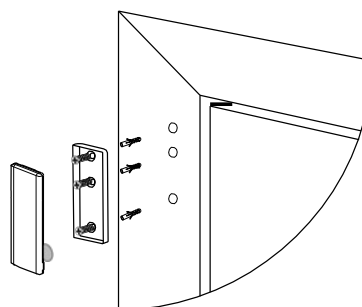

Figure 5: Device screw installation
2. Screw the device base onto the door frame. See Figure 5.